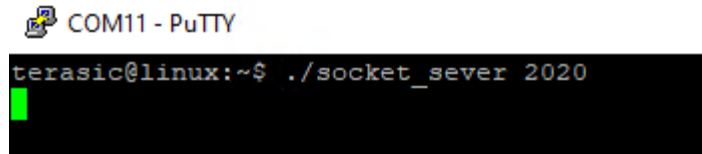

Figure 3-42 Start Socket Server
9. Type "**./socket_server 2020**" to launch the server program with port number 2020 as shown in **Figure 3-42**. The port number can be any value between 2000 and 63500.